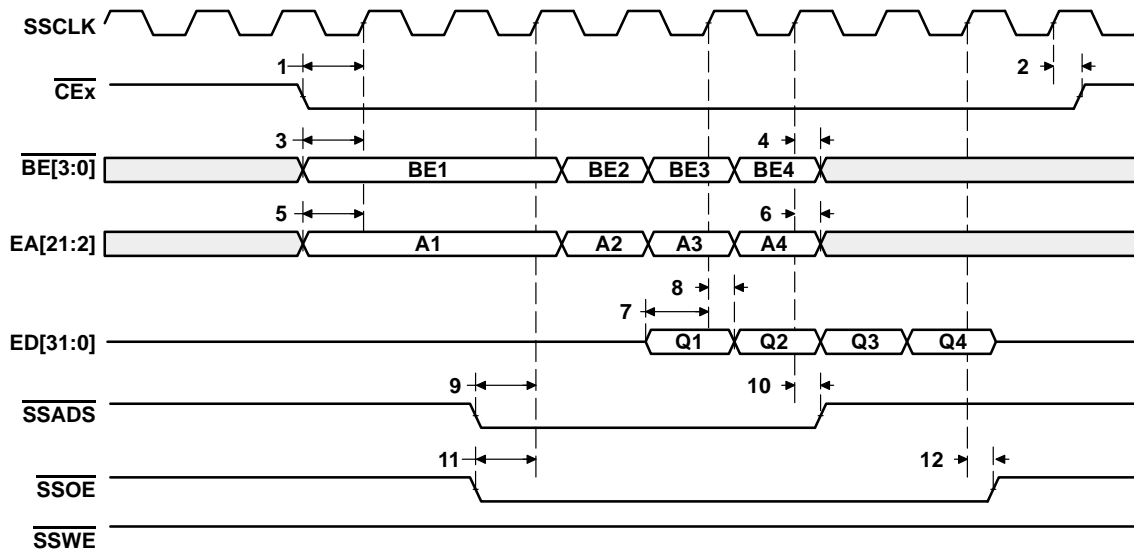
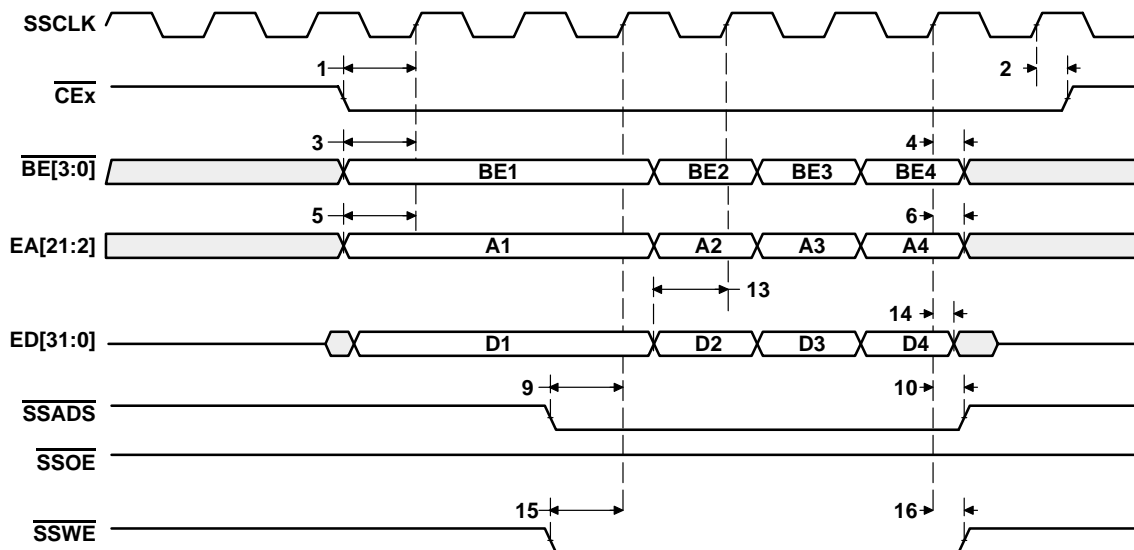

Figure 15. SBSRAM Read Timing (Full-Rate SSCLK)
Figure 16. SBSRAM Write Timing (Full-Rate SSCLK)
**timing requirements for synchronous-burst SRAM cycles (full-rate SSCLK) (see Figure 15)**
**(see Figure 15 and Figure 16)**